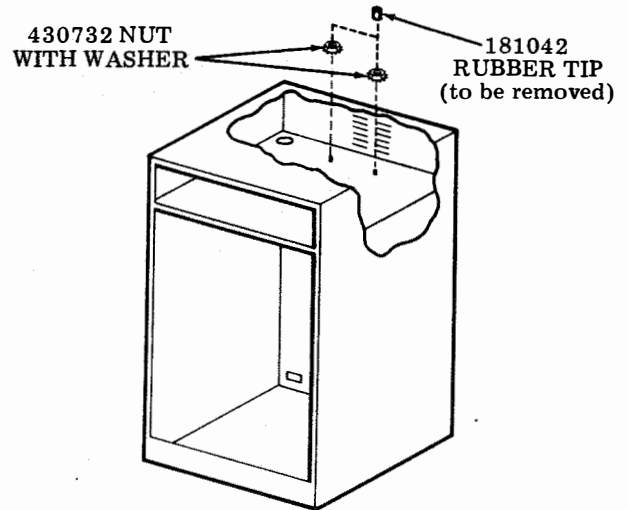

Fig. 1 - 45CAB401/AAA
3.02 Remove all items from the upper shelf area of the cabinet and remove the two 181042 rubber tips from the two weld screws in the rear of the shelf. Start threading the two 430732 nuts with washers (from muslin bag) on the two exposed weld screws, allowing space below nut with washer for fan bracket (of 3.03), do not tighten. See Fig. 1.